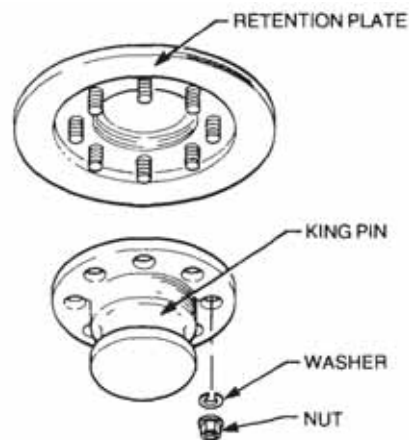

Figure 26 King Pin and Retention Plate
66. **Replacement.** Replace the king pin as follows (Figure 26):